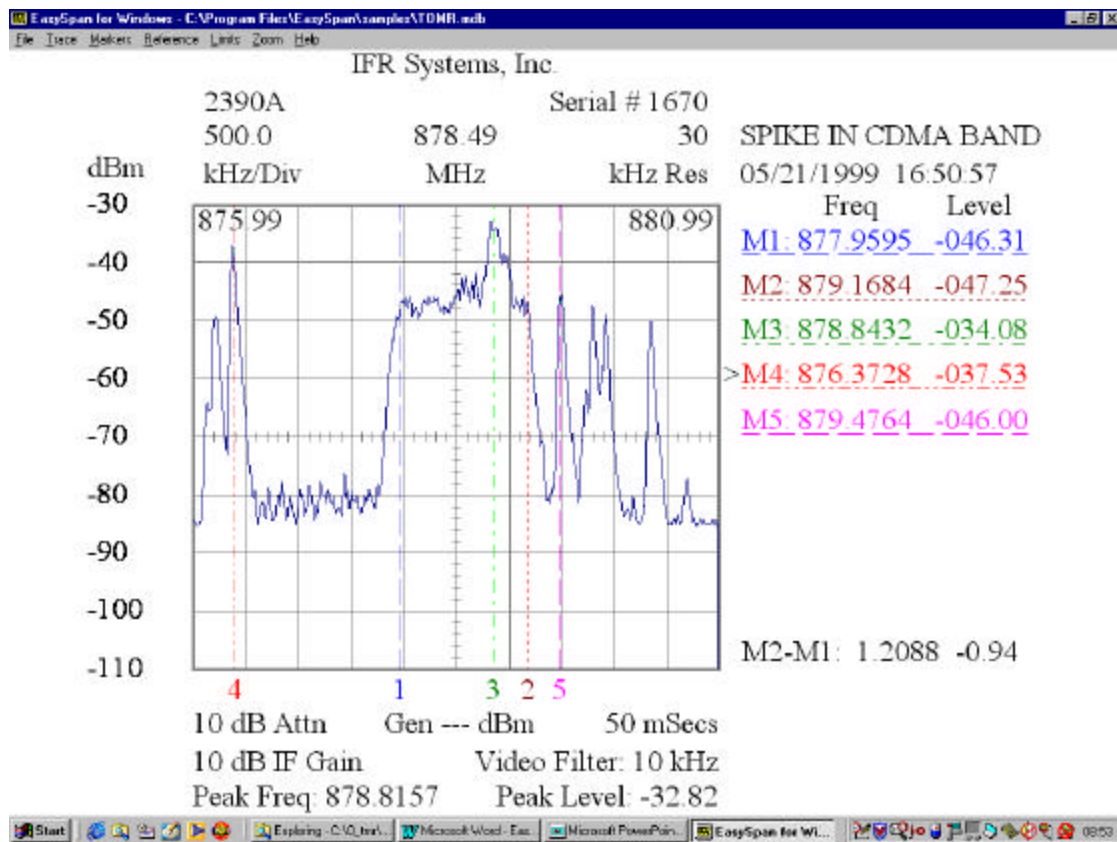

Fig. 7
- 7.13** Fig. 7 displays a rather obvious problem in a CDMA channel. Marker number three shows it to be at 878.8432 MHz and at a level of -34.08 dBm. The channel bandwidth indicated by the difference information of marker one minus marker two is about 1.2 MHz.